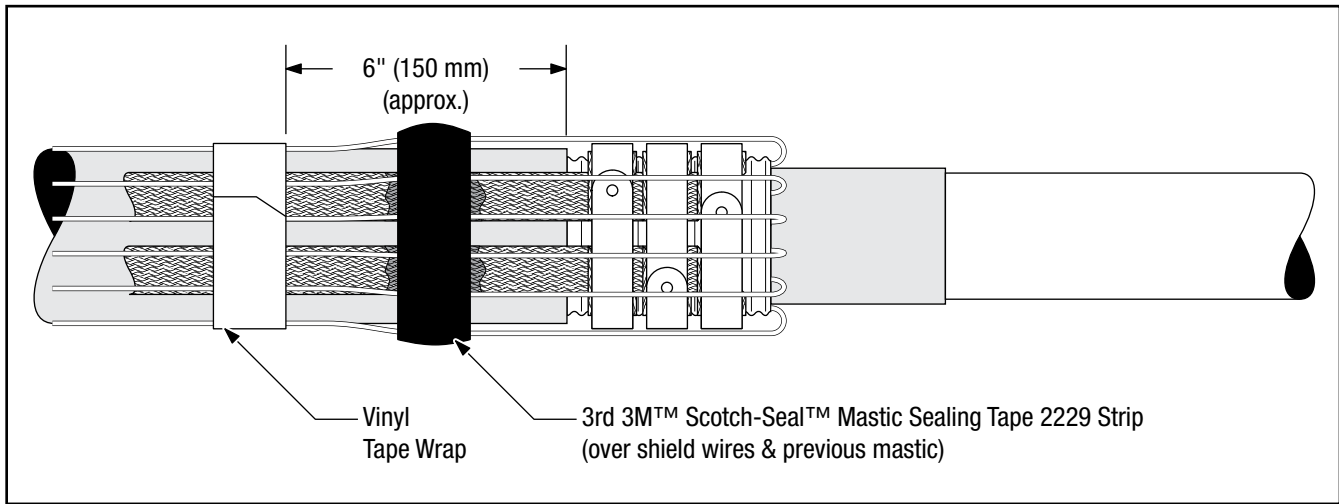

Figure 9
- 2.7 Cut a third length of 3M™ Scotch-Seal™ Mastic Sealing Tape 2229 long enough to wrap a **SINGLE WRAP** over wires, applied mastic and solder blocks. Remove the release liner from the mastic and, using light tension, apply mastic over the shield wires and previously applied mastic. (*Figure 9*)
- 2.8 Secure the shield wires and the two tails of the ground braid assembly to the cable jacket approximately 6" (150 mm) from the cable jacket edge with several wraps of vinyl tape. (*Figure 9*)